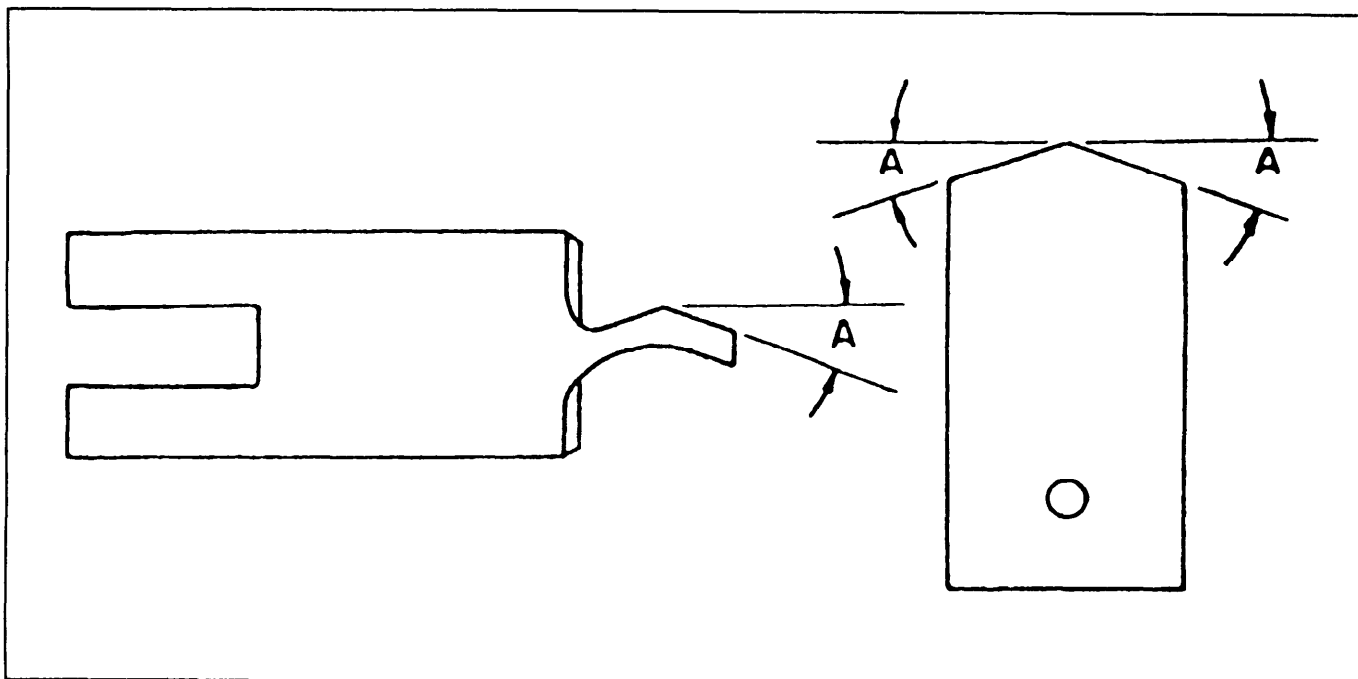

Figure 10-25.—Tooth rest blades for staggered tooth cutters.
3. Grind the tool rest blade to the helix angle of the cutter teeth on each side of the blade (fig. 10-25).